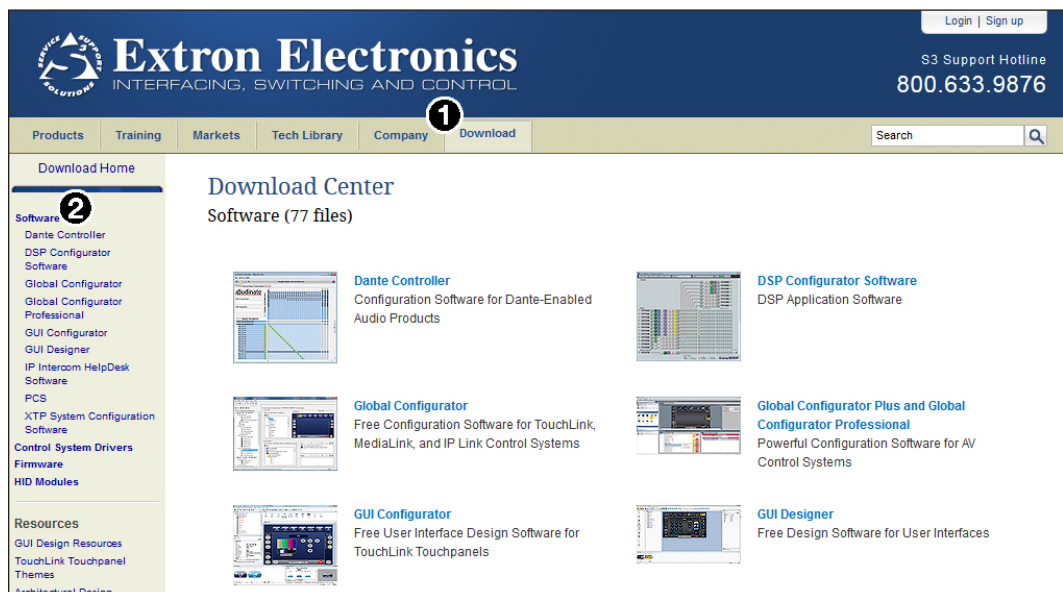

Figure 22. Extron Website Download Page
1. On the Extron website, select the **Download** tab (see figure 22, 1).
2. From the left sidebar, click the **Software** link (2).